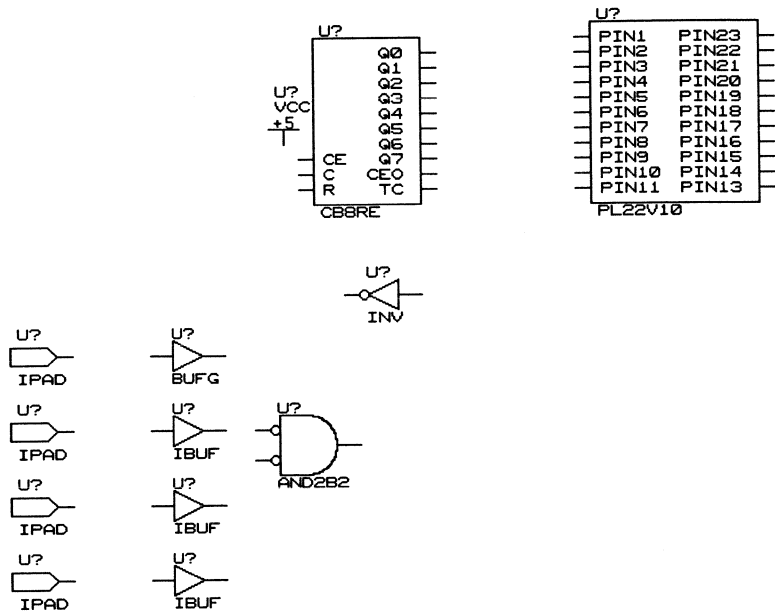

Figure 16-5 Adding Components
Enter components in the schematic and arrange them as shown in Figure 16-5.
3. Select **Place** on the Get menu to place the inverter as shown in Figure 16-5.
When you have finished arranging the components, the screen should look like Figure 16-5. If necessary, move the components using the Block Move command.